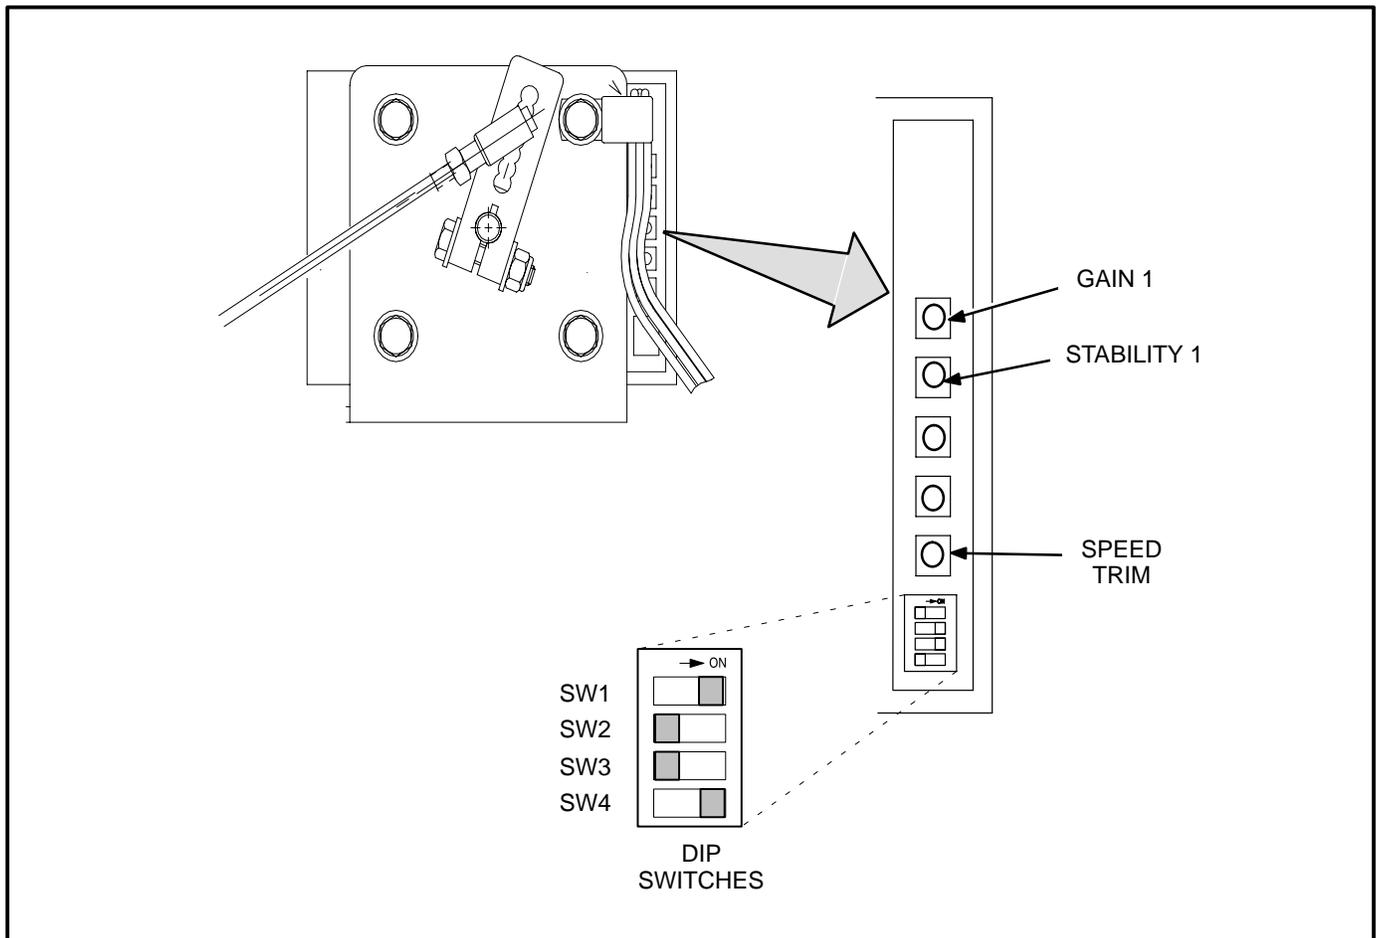

FIGURE 6-5. GOVERNOR CONTROLLER
1. Check the dip switch settings (Figure 6-5) to make sure they are set properly, as follows: